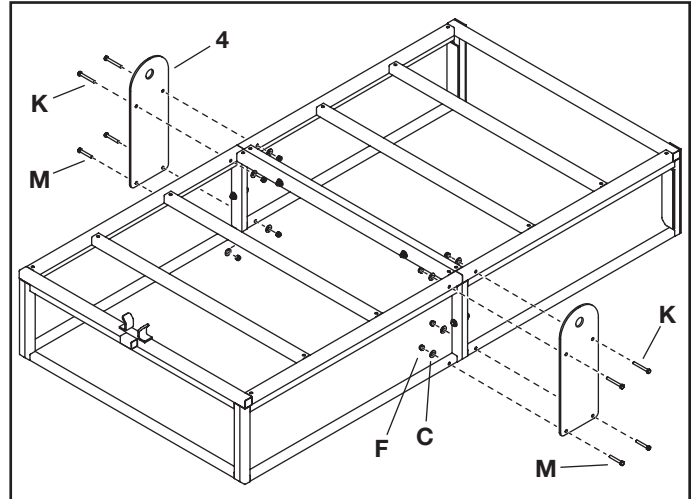

FIGURE 2
STEP 2: (SEE FIGURE 2)
- With the trailer assembly in the upside down position, attach the top of the two axle mounting plates (4) to the trailer frame assembly with four M6x40 mm bolts (M), M6 steel washers (C), and M6 locknuts (F).
- Secure the bottoms of the two axle mounting plates (4) using four M6x50 mm bolts (K), M6 steel washers (C), and M6 locknuts (F).